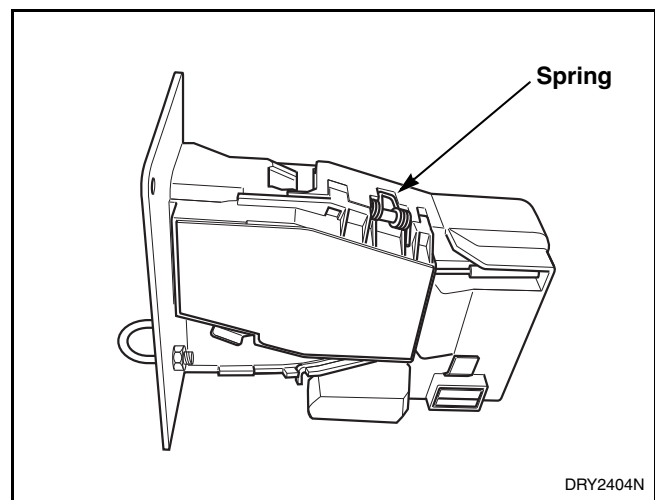

Figure 19
**Coin Drops with New-Style Spring (refer to Figure 19):**